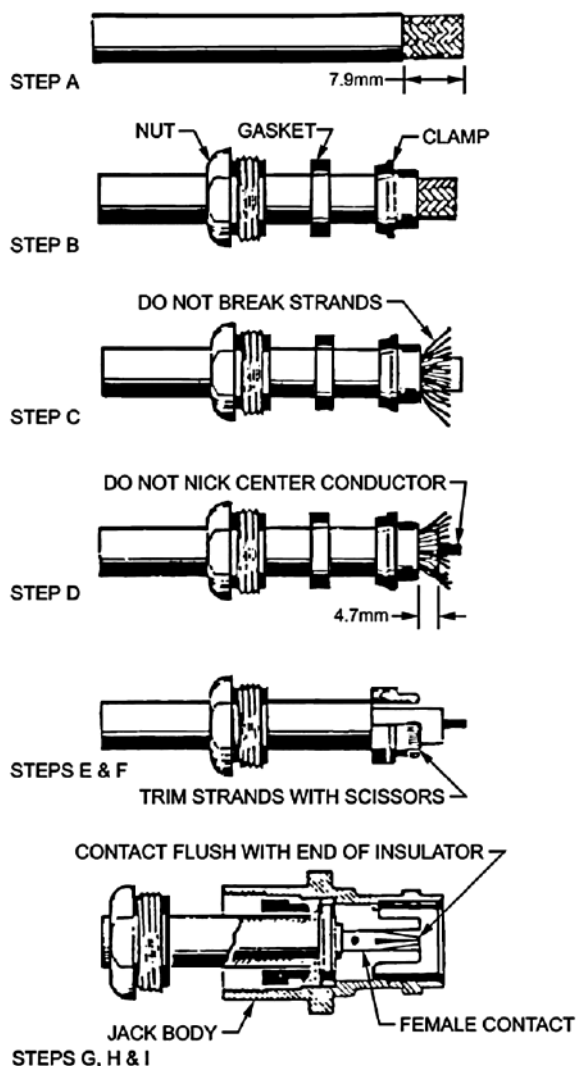

Figure 12-19 Attaching Improved BNC Connectors to Coaxial Cable
13. When attaching improved BNC connectors to coaxial cable (see Figure 12-19), use the following procedure: